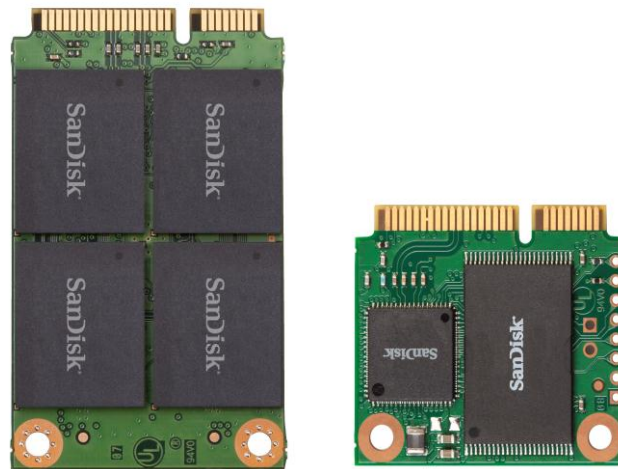

Figure 2. mSATA and mSATA mini SSDs
- **mSATA/mSATA mini:** This interface allows a storage module the size of a business card to be plugged into existing mini-PCIe connectors on motherboards. Cards based on mini-PCIe were originally intended to add functions such as Wi-Fi to laptops and are designed to plug in with an orientation parallel to the motherboard. An additional signal added to the connector specification automatically detects if the card is mSATA or PCIe, thereby eliminating the need for a dedicated mSATA connector. For more tightly-constrained designs, mSATA mini has half the depth of an mSATA card (see Figure 2).